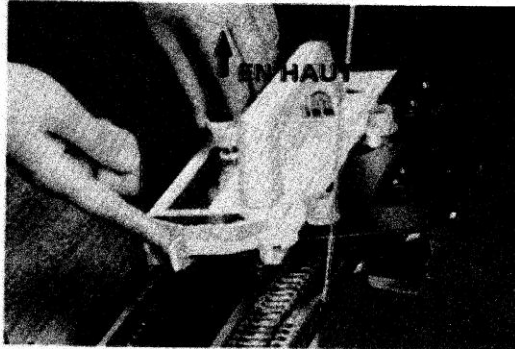

Fig.2
- (b) Set both shifting cam levers to "PASS" position and pull up the tuck knob. Then, transfer the carriage across the needles from right to left. (Fig.2)